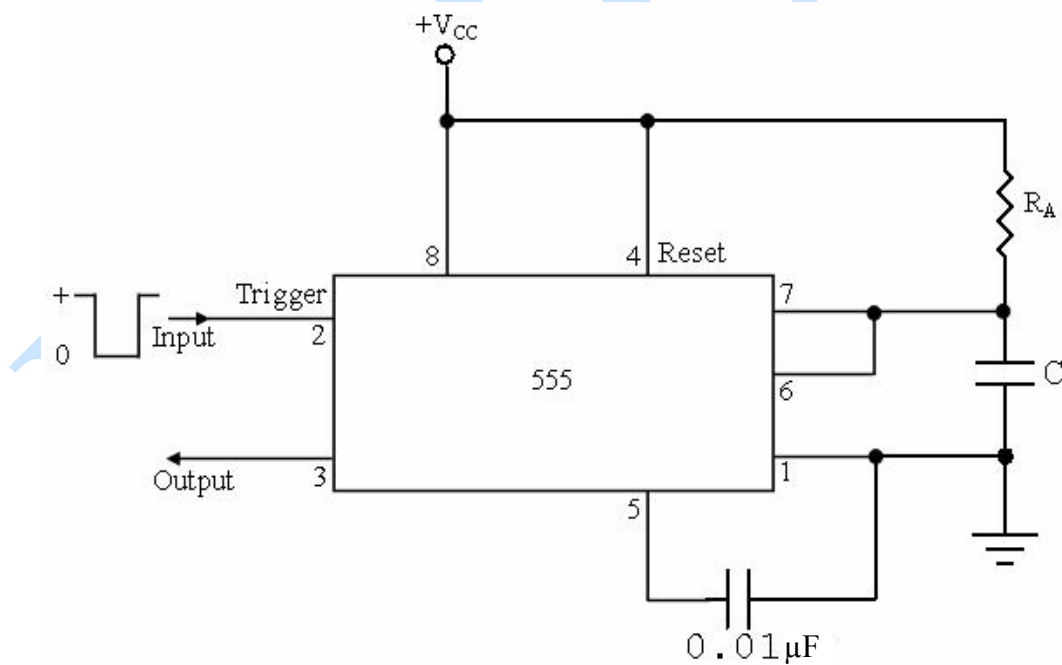

Figure 7: Monostable multivibrator
A 555 timer connected for monostable operation is shown in Figure 7. The circuit has an external resistor and capacitor. The voltage across the capacitor is used for the threshold to pin 6. When the trigger arrives at pin 2, the circuit produces output pulse at pin 3.
- Connect the circuit as shown in Figure 7 with the calculated values of R and C .